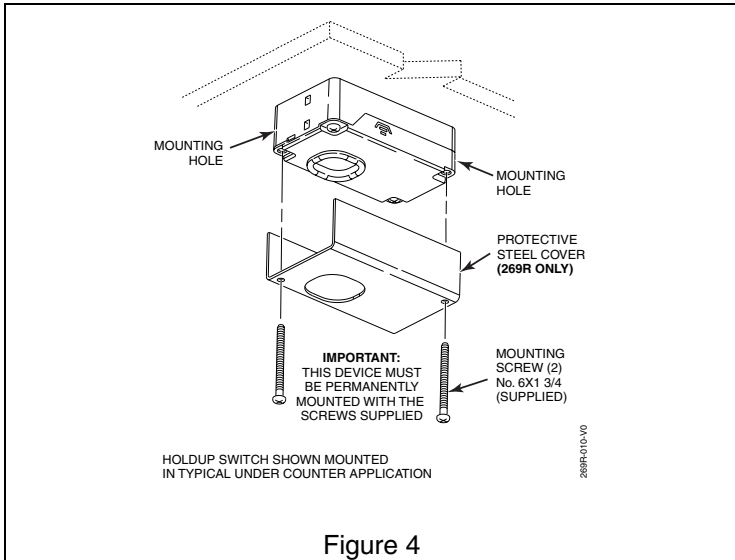

Figure 4
6. Secure the assembled case with the protective cover (if required) to the counter with two screws (No. 6 x 1-3/4) supplied. (Figure 4).